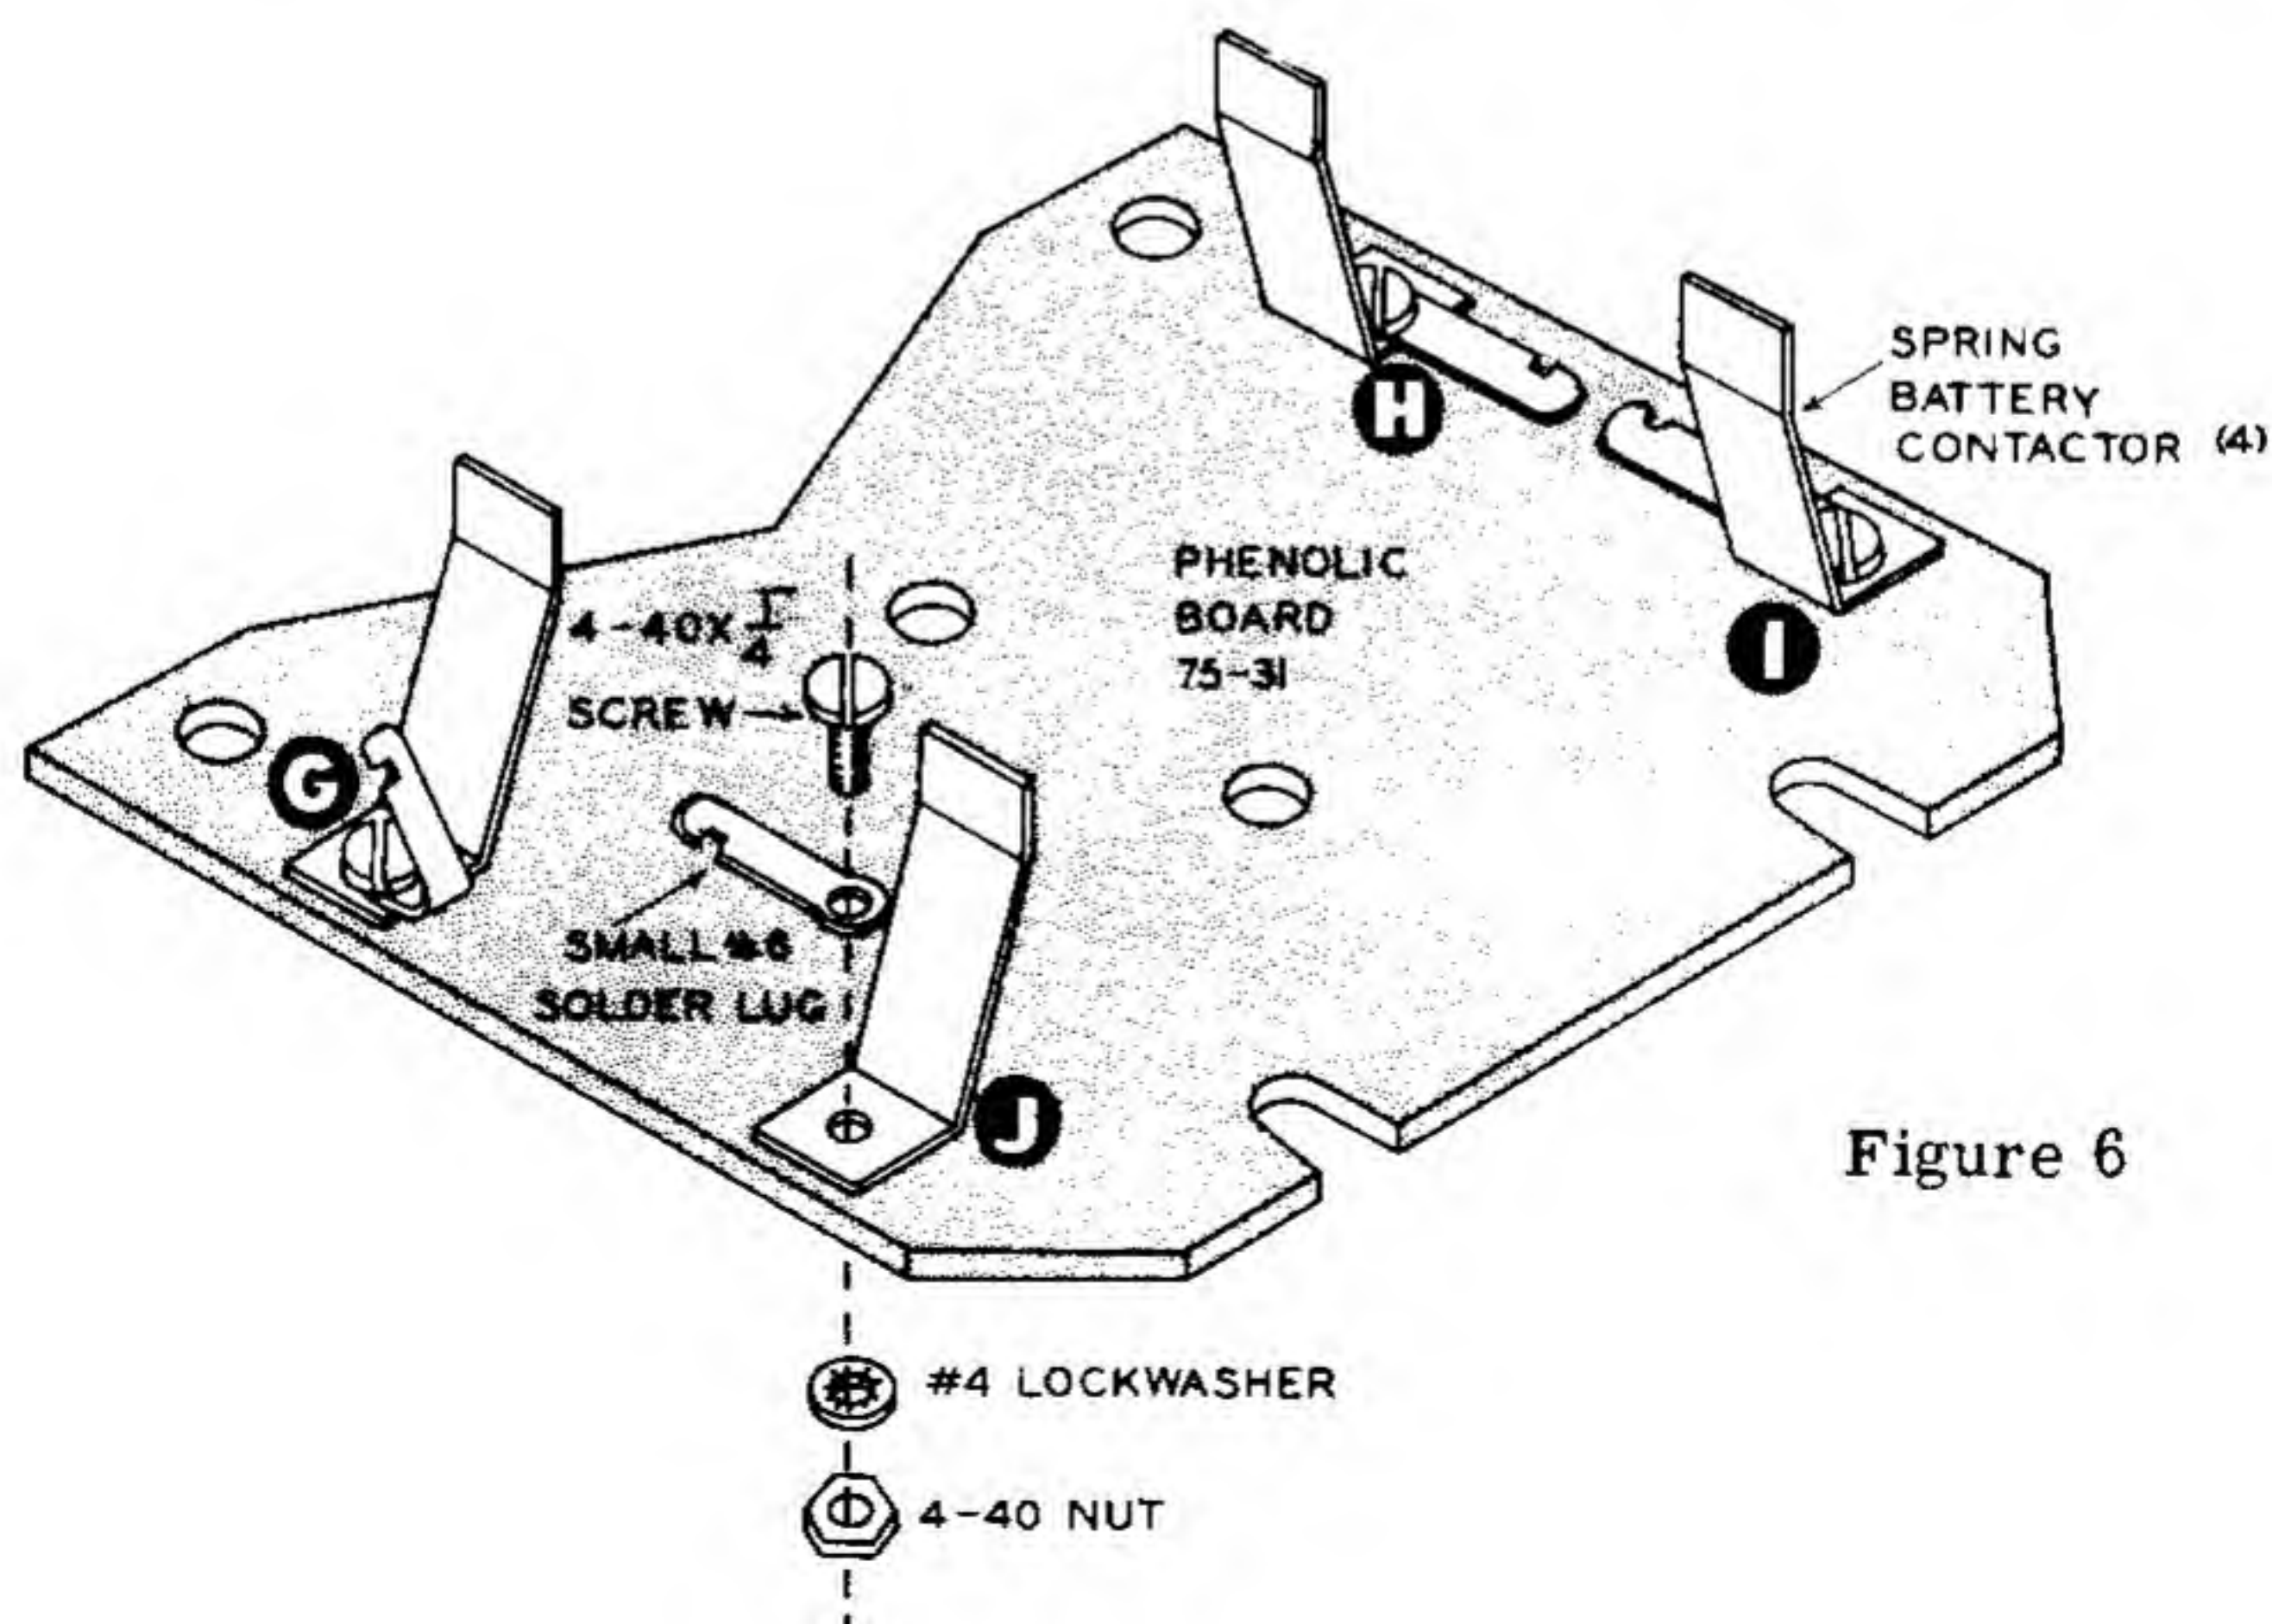

Figure 6
- () Refer to Figure 6 and use 4-40 hardware as shown. Mount the four spring battery contactors and small #6 solder lugs in their proper positions on the phenolic board. Use a 4-40 x 1/4" PHMS from the topside of the board through the small #6 solder lug first, then through a spring contactor (if too snug, use a screwdriver), the phenolic board, a #4 lockwasher and secure with a 4-40 nut. (Note that two of the solder lugs lay flat and two bend up.)